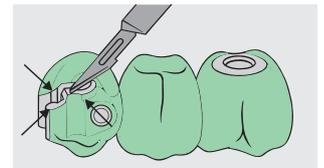

Fig. 6
**Important:** The inner surfaces of the female part housing must be free of wax. It is advisable to use a scalpel to cut (see arrow) a small notch between the wax and housing (refer to Fig. 6) to prevent the alloy running in while being cast-on. During investing, ensure that the investment material flows around the screw in the housing exactly and that no bubbles are entrapped. We recommend wetting the female part with water.